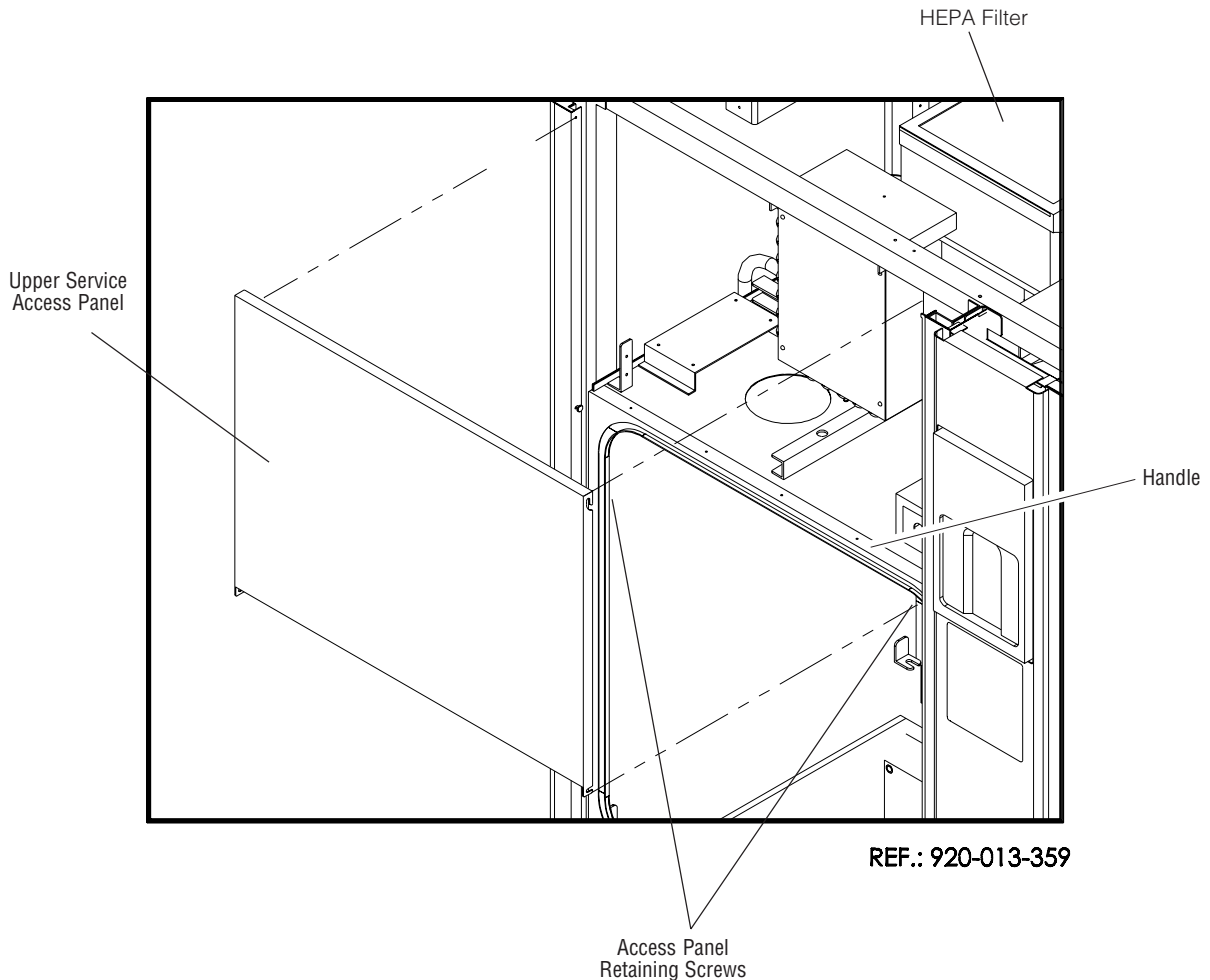

Figure 2-5. Remove Upper Service Panel
1. Untighten screws from bottom right and left-hand corners of the upper service access panel(s) (see Figure 2-5).